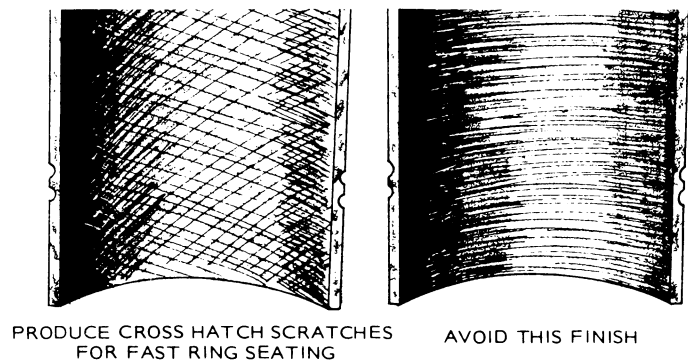

FIGURE 36. CROSS HATCHING
3. The deglazing tool should be driven by a slow speed drill. Move deglazing tool up and down in cylinder (10 to 12 complete strokes) rapidly enough to obtain a crosshatch pattern as shown in Figure 36.